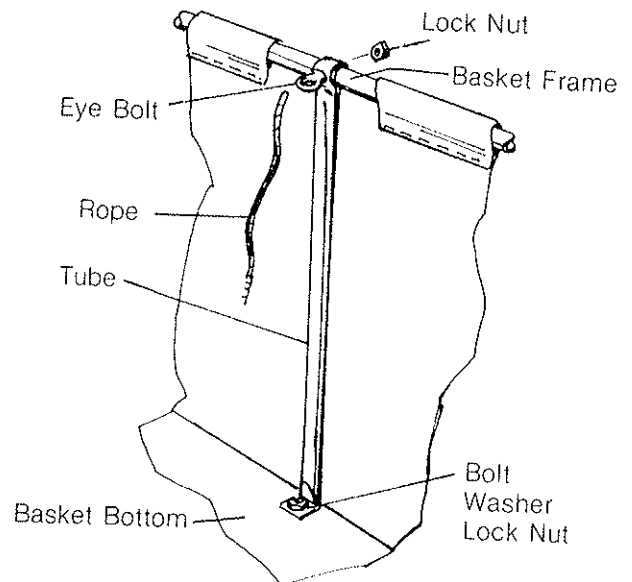

Figure 7
5. Fig. 7 & 13 - Fasten the Tube to the bottom of the Basket with a $\frac{1}{4}$ -20 x $\frac{5}{8}$ Hex Hd. Bolt, Flat Washer and Lock Nut. Now pull the Basket Frame up until it fits in the curve at the top of the Tube, then insert the Eye Bolt thru the Tube and the Basket Frame and fasten with the Lock Nut. Now tie the rope in the Eye Bolt.